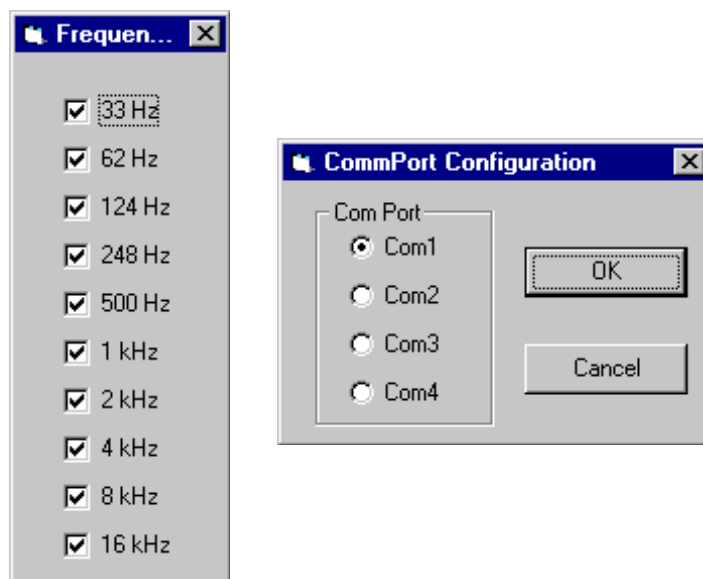

Figure 13. Frequency Table and COM Port Configuration
- Frequency table On/Off checkbox to bring up a small dialog box that allows the user to change the knob values of the 10 bandpass filters' gain. When a certain frequency is checked, the corresponding knob changes to the very top position (a gain of 1). The opposite happens when it is unchecked (see **Figure 13**).